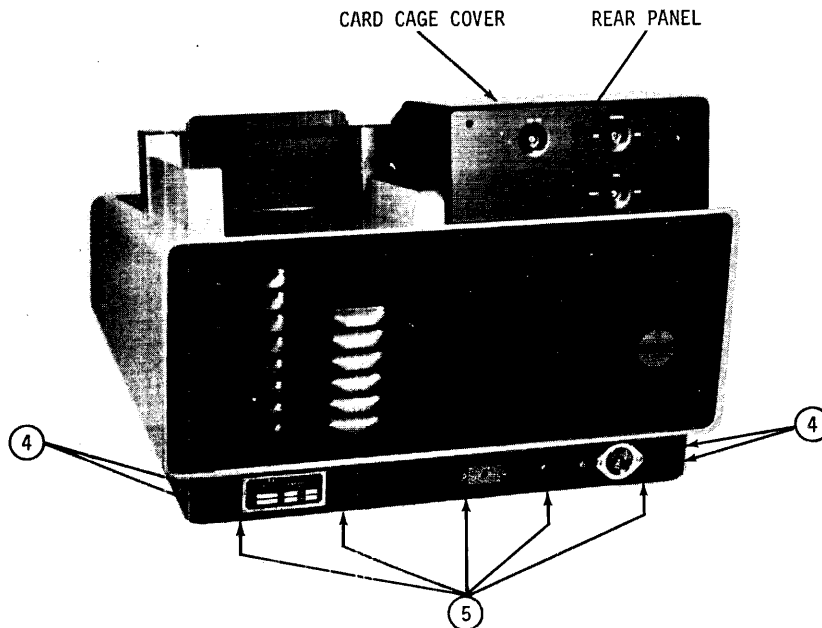

Figure 9-9. Removal of Rear Subframe Panel, Main Card Cage Cover and Panel
- b. Remove four Phillips head screws (4) at rear of subframe panel, figure 9-9.
- c. Remove five Phillips head screws (5) on bottom, rear edge of card reader, holding subframe panel, figure 9-9.
- d. Remove two button head screws on each side of the card cage cover, slide backward, and lift off, figure 9-9.
- e. Remove four button head screws holding rear panel of card cage and remove rear panel, figure 9-9.
- a. Remove two button head screws each side of card cage cover and remove main card cage cover sliding back slightly and lifting upward, figure 9-9.
- b. Remove four button head screws and remove rear card cage panel, figure 9-9.